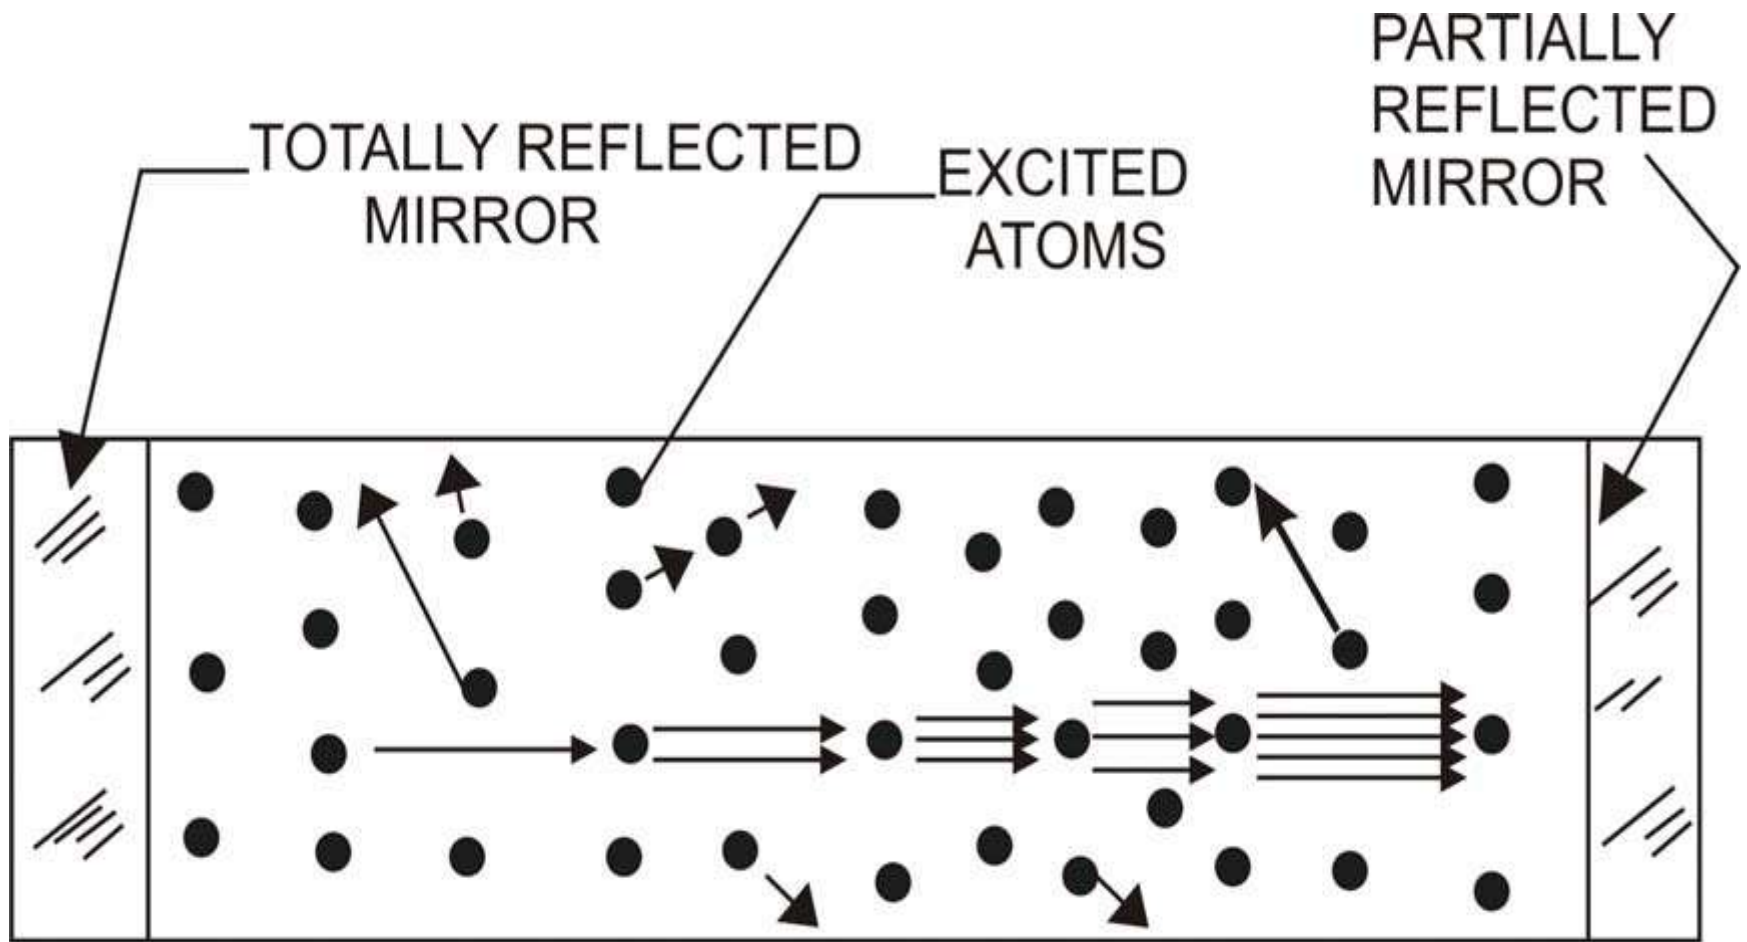

Fig. 3 Lasing Action
- Fig. 3 schematically shows working of a laser.